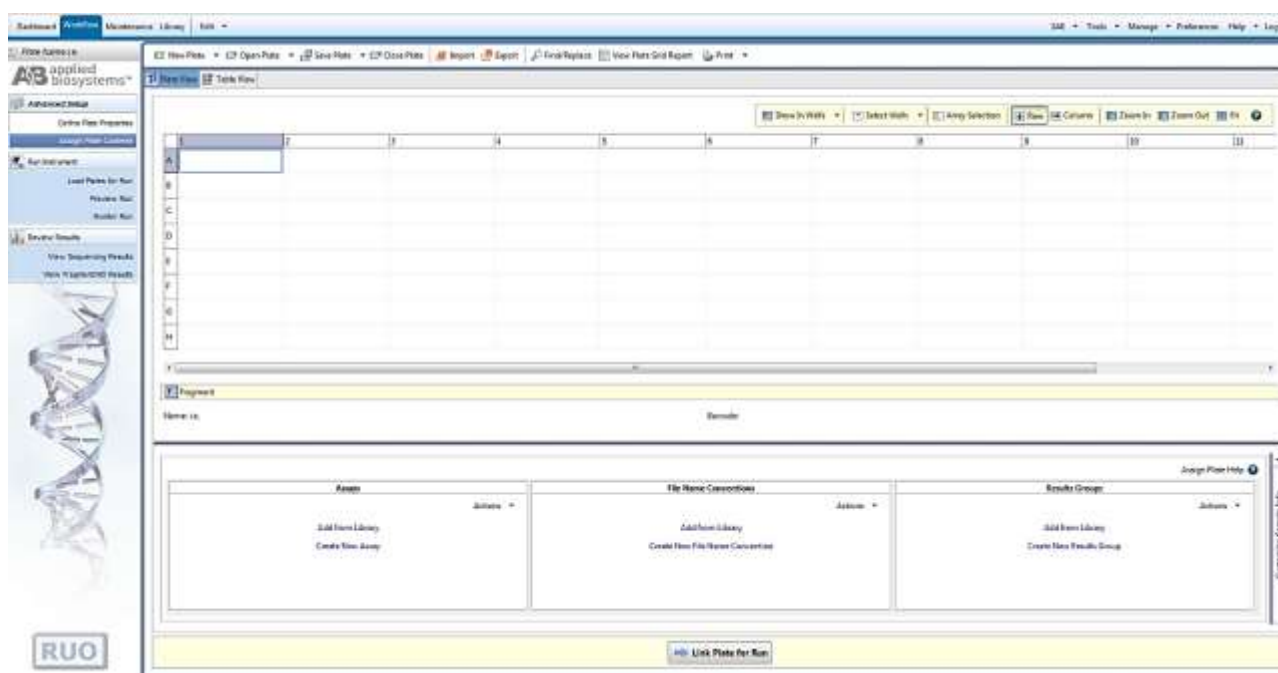

Figure 13- Screenshot for the “Assign Plate Contents” window on Applied Biosystems 3500 Data Collection software.
2. In the Assign Plate Window (Figure 13), in the bottom left corner, in a box “Assay”, click Add from Library option to select the Assay created in Step 3.5.4. Click on the “Add to Plate” button and close the window.